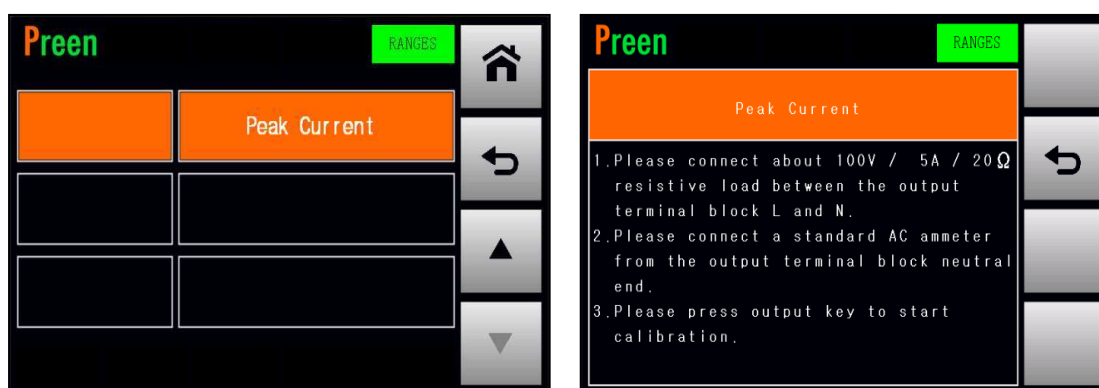

Figure 4-7-1 Enter into the page which calibrates the peak current.
1. Press the item **Peak Current** repeatedly to enter into the page which calibrates the peak current (refer to Figure 4-7-1).